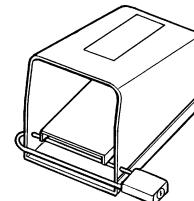

Figure 1 – Locked Foot Switch
8. Lock foot switch when not in use. (See Figure 1.) Avoids accidental starting.